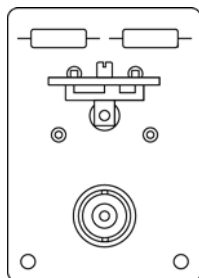

Figure 26 Signal to Both Inputs
- 18 Adjust R9, HF GAIN so the V_{p-p} (1) measurement is the same as in step 4, within $\pm 0.5\%$. Make the adjustment slowly so the oscilloscope display has time to react to signal averaging. Press **CLEAR DISPLAY** occasionally to restart averaging, which gives a quicker indication of changes.
- 19 Carefully connect the probe to the test board in the position shown in Figure 26.